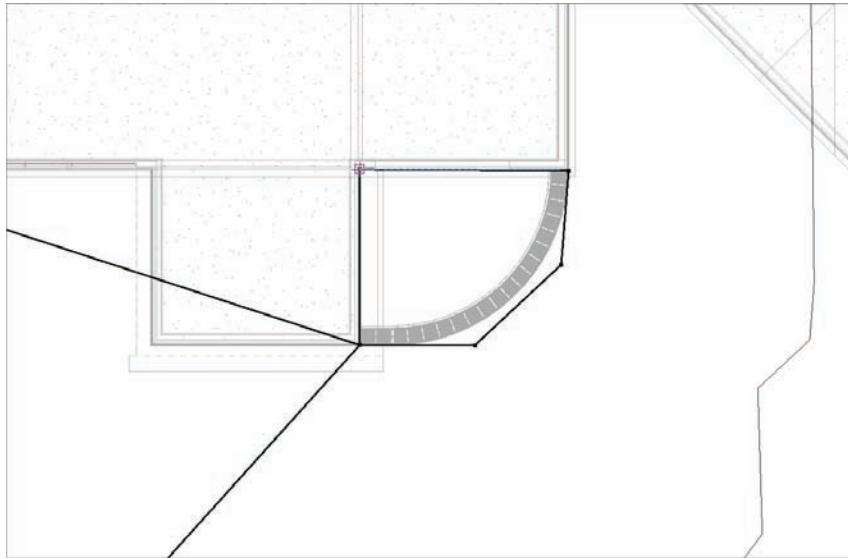

FIGURE 18.6 Adding the 0 elevation points
3. Zoom in on the west wing area where the slanted curtain wall resides, as shown in Figure 18.6.
8. Pick five points (see Figure 18.6).